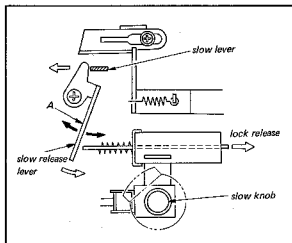

Fig. 4-21.
4. If the above condition does not exist, bend Section A with a pair of pliers for adjustment. Refer to Fig. 4-21. The reel panel and the sash should be removed before adjustment.